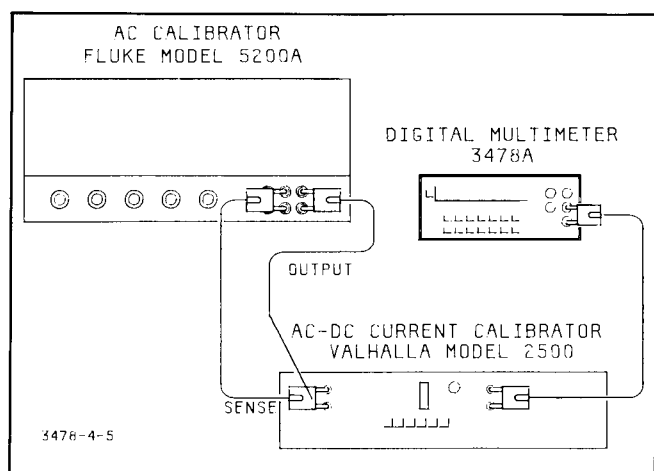

Figure 4-5. AC Current Accuracy Test and Calibration
e. Connect the AC Calibrator to the AC-DC Current Calibrator as shown in Figure 4-5.
f. Connect the 3478A to the AC-DC Current Calibrator as shown in Figure 4-5.